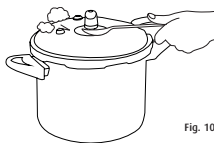

Fig. 10
**2. When opening the pressure cooker:** when removing the pressure cooker from the stove, do not immediately remove the lid. Wait until the pressure cooker has depressurized to open it. For this, it is recommended to lift the pressure regulating weight with a fork or spoon and thus allow the steam to escape. (Fig.10)